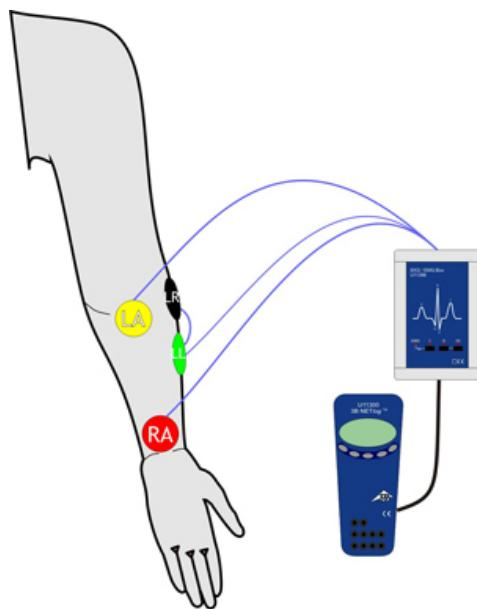

Fig. 3 Recording an electromyogram of the left forearm of a person
- Set up the experiment as shown in Fig. 3.